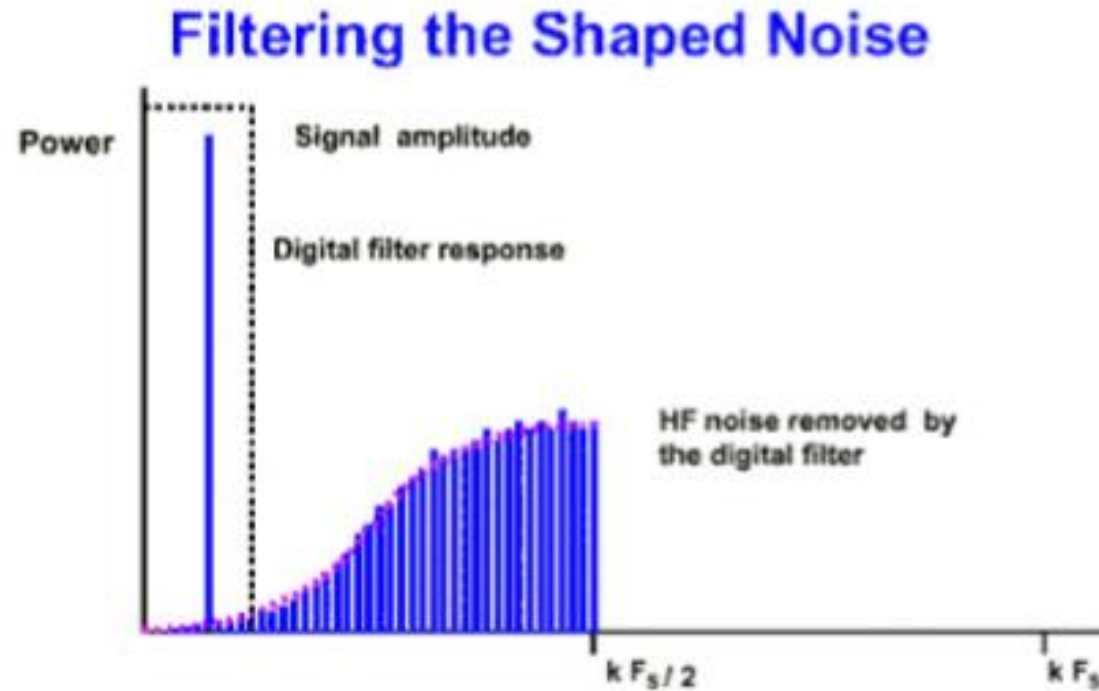

Fig. 17 The Effect of Integrator and Digital Filter on the Spectrum
- If we apply a digital filter to the noise-shaped delta-sigma modulator, it removes more noise than does simple oversampling.(Fig.17).